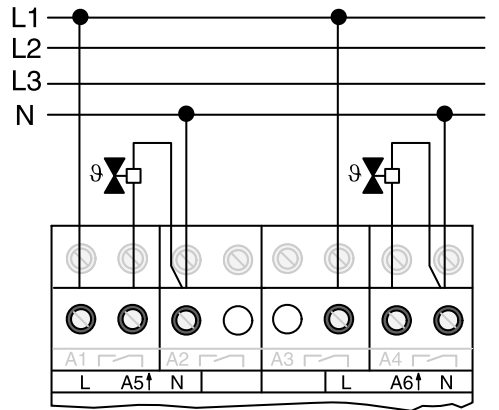

Fig. 6: Connection of electro-thermal 230 V adjustment drives
- Connect the adjustment drives (Fig. 6). Connect 4 adjustment drives maximum to one output.